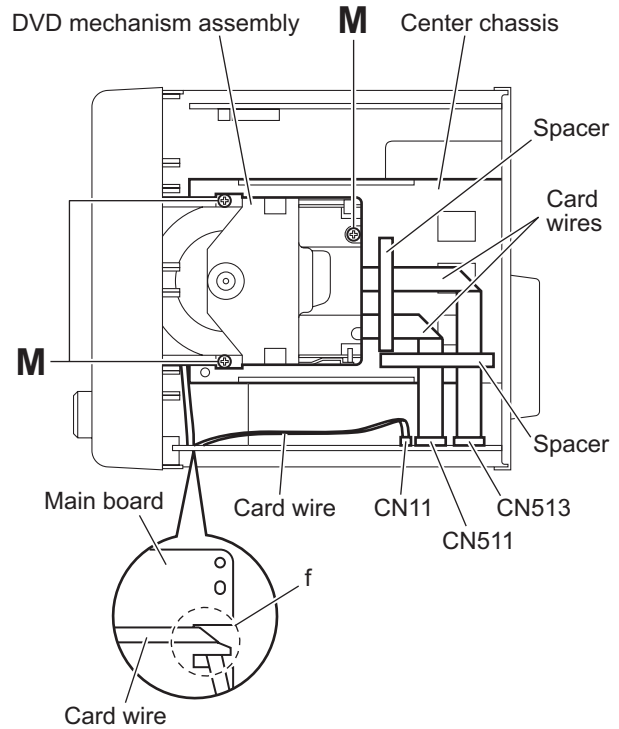

Fig.12
### 3.1.6 Removing the DVD mechanism assembly (See Figs.12 and 13)
- (1) From the top side of the main body, remove the three screws **M** attaching the DVD mechanism assembly on the center chassis. (See Fig.12.)
- (2) From the forward side of the main board, disconnect the card wires from the connectors (CN11, CN511, CN513). (See Fig.12.)
When reassembly, pass the card wire through the section **f** of the main board before connecting the card wire to the connector CN11. (See Fig.12.)
- (3) Remove the spacers fixing the card wires. (See Fig.12.)
After connecting the card wires, fix them with the spacers as before. (See Fig.12.)